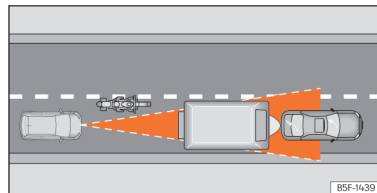

Fig. 139 Motorcyclist ahead out of range of the radar sensor.
- Vehicles that are not aligned while driving or that are outside the sensor's detection area, such as motorcycles >>> **Fig. 139**.